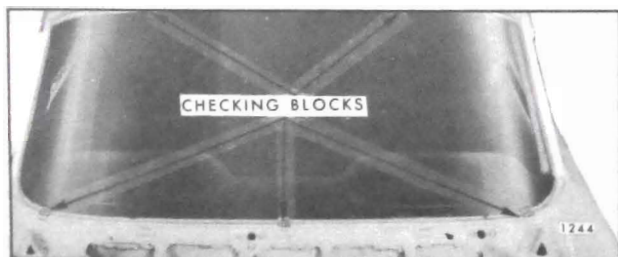

Fig. 4-11—Windshield Glass Checking Blocks
3. Install five windshield checking blocks J-8942 or equivalent (Fig. 4-11) to pinchweld flange at the following locations. Position one block over lower pinchweld flange on each side of body approximately twelve inches inboard from the lower outer corner of the opening. Position one block in center on lower pinchweld flange. Position final blocks on upper pinchweld flange midway between center block and each outboard block on lower retaining flange.